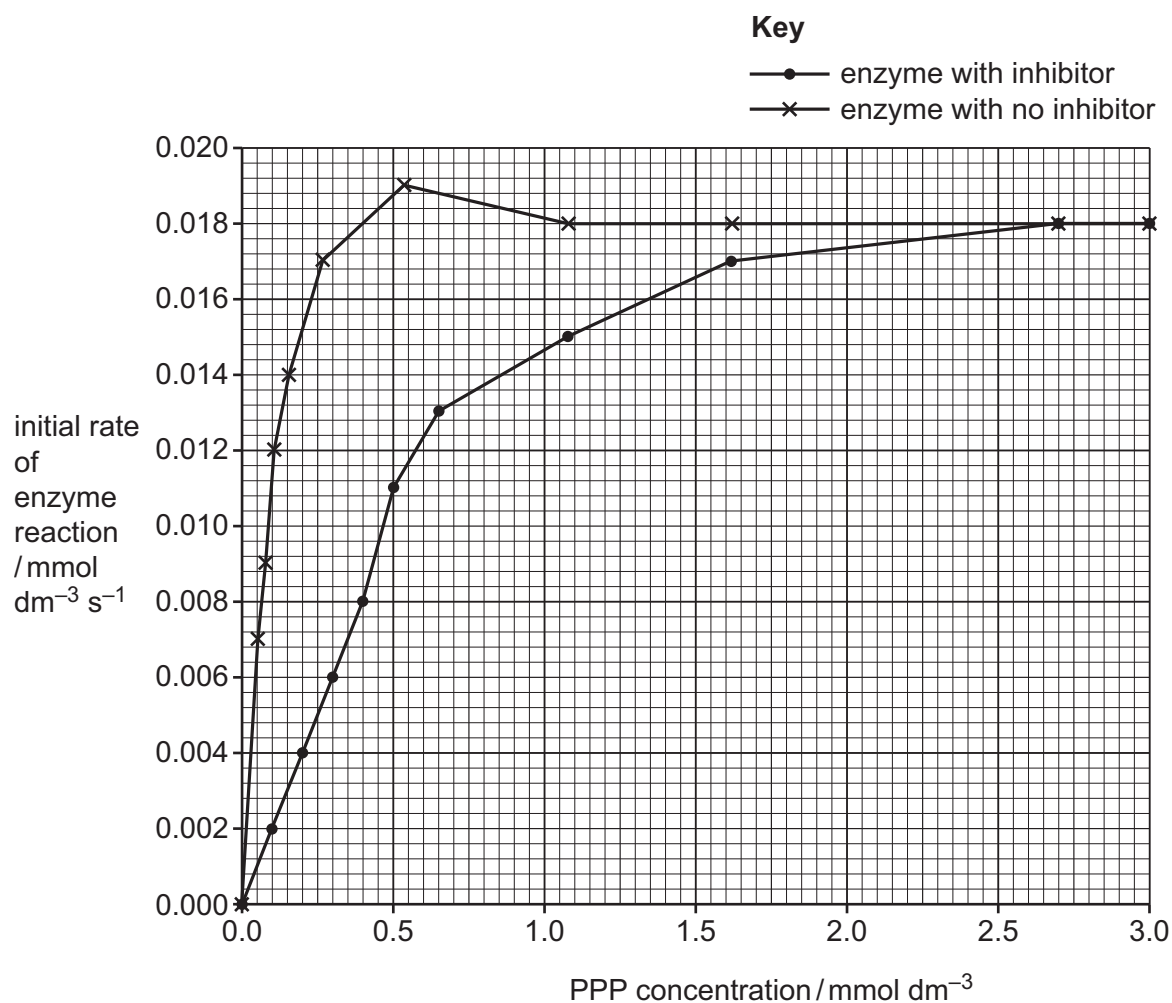

Fig. 1.3
Fig. 1.3 shows a graph of the initial rates of enzyme reaction against PPP concentration for the enzyme with no inhibitor and the enzyme with inhibitor.
(i) One of the data plots in Fig. 1.3 is anomalous.
Circle the anomalous data plot in Fig. 1.3 **and** explain why you think it is anomalous.
- (ii) Use Fig. 1.3 to determine the Michaelis–Menten constant (K_m) for the enzyme with no inhibitor and for the enzyme with inhibitor.